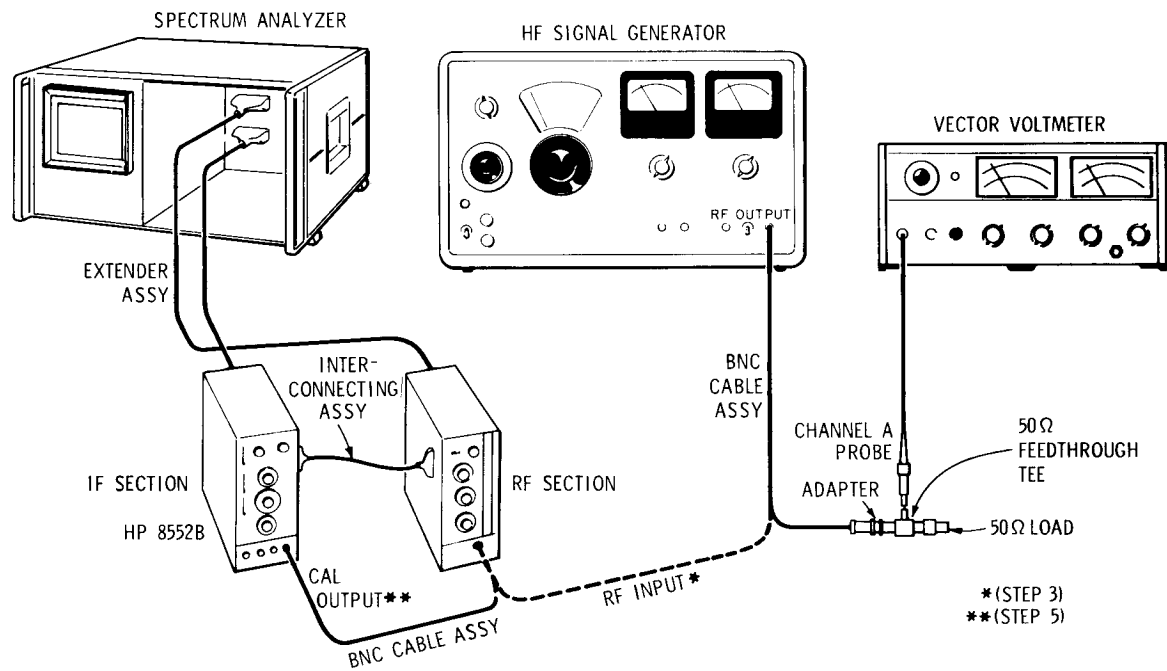

Figure 5-16. 30 MHz Calibration Amplitude Adjustment Setup
1. Connect the equipment shown in Figure 5-16 and make the following control settings: